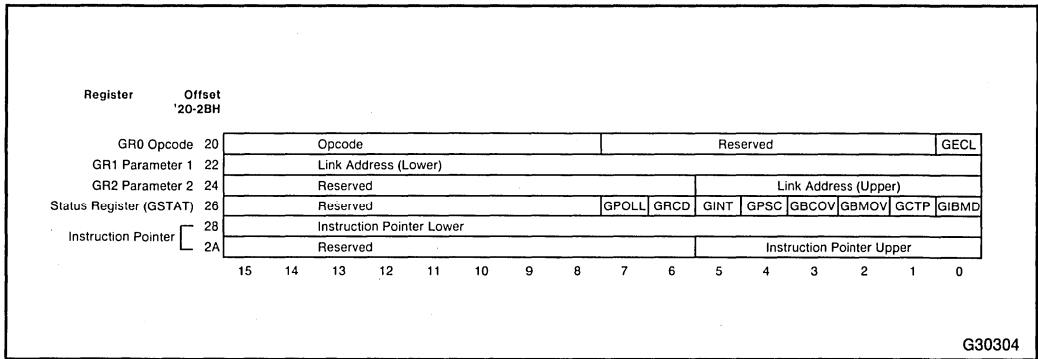

Figure 2-2. Graphics Processor Internal Registers
The Graphics Processor (GP) has six Internal Registers on the 82786 that are either I/O or memory mapped. The external CPU uses these registers to initiate execution of graphics command lists and record status. Unlike other GP registers, which must be read and written to with Load and Dump Register commands, these GP registers are directly addressable. They are located at Internal Register Block offsets 20h through 2Ah from the base address (see Figure 1-3). The base address marks the beginning of the Internal Register Block and is contained in the BIU Relocation Register described in Section 4.2.1. Figure 2-2 displays these GP Internal Register Block registers which include GR0, the Opcode Register at offset 20h; GR1 and GR2, the lower and upper values of the starting address of the next Graphics Command Block (GCMB) at offsets 22h and 24h (see Section 2.3 “Command Execution and Format” for details); the GP Status Register (GSTAT) at offset 26 (see Section 2.2.1.1
82786 Internal Registers GR0, GR1, and GR2, shown in Figure 2-2 in Section 2.2.1, are loaded with the address of the GCMB and a Link command to initiate execution. The following sections discuss the GCMB format, Poll State, exception handling, and RESET.